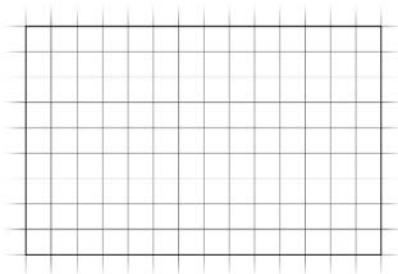

FIGURE 3.17 The completed outside wall lines
- Finally, enter **C.J** to close the box. This tells AutoCAD to draw a line from the last point picked to the first point picked and, in effect, closes the box. AutoCAD then automatically ends the LINE command (see Figure 3.17).